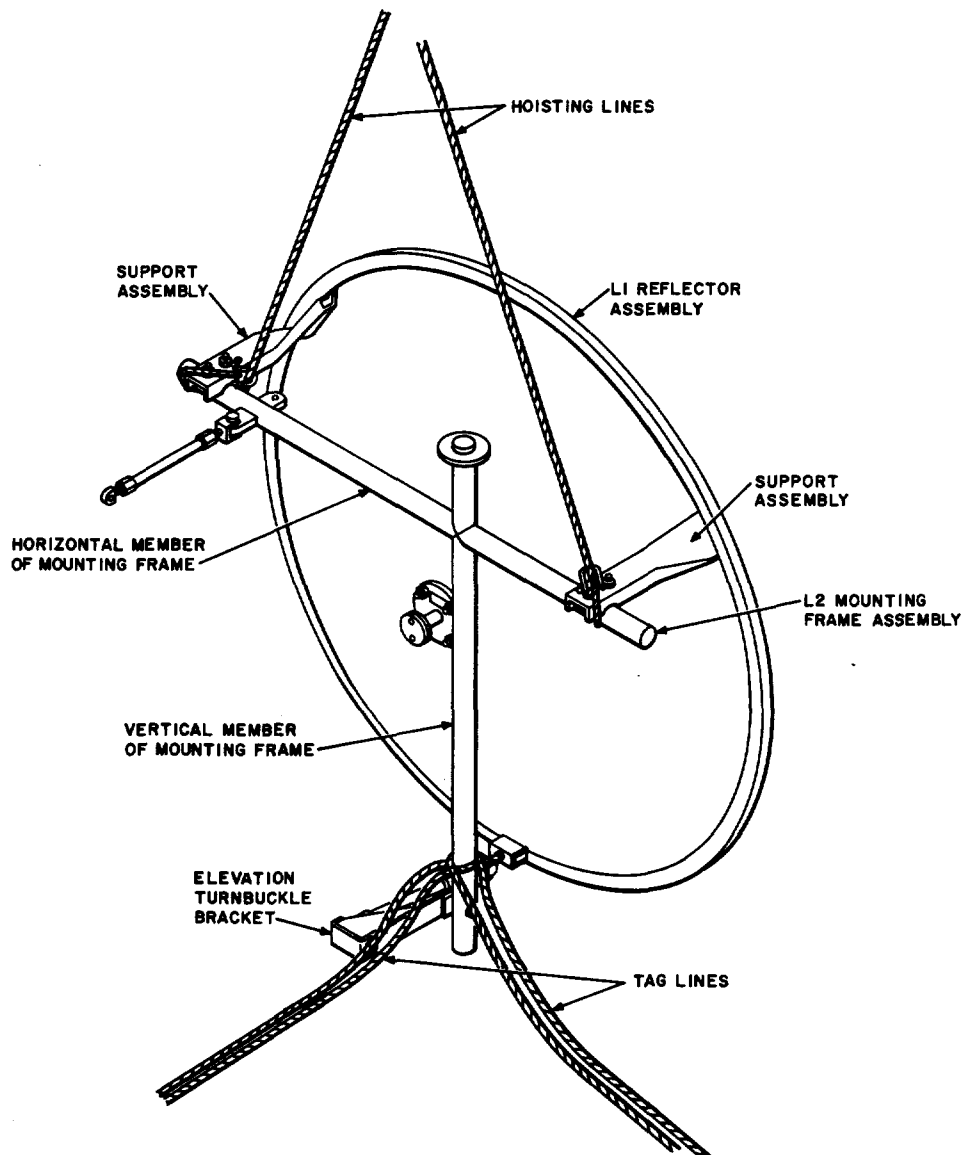

Fig. 5—Hoisting Sling and Tag Line Attachment to Antenna
**5.02** Connect the hoisting sling to the antenna mounting frame assembly at the junction of the horizontal member of the mounting frame support assemblies which connect to the antenna reflector (Fig. 5).
**5.03** Connect two tag lines to the mounting frame assembly at the junction of the vertical member of the mounting frame and the elevation turnbuckle bracket (Fig. 5). The tag lines should be used to prevent the antenna from striking the side of the support structure during the hoisting operation. As the antenna rises, it may be necessary for the tag line men to move farther from the support structure in order to gain better control.